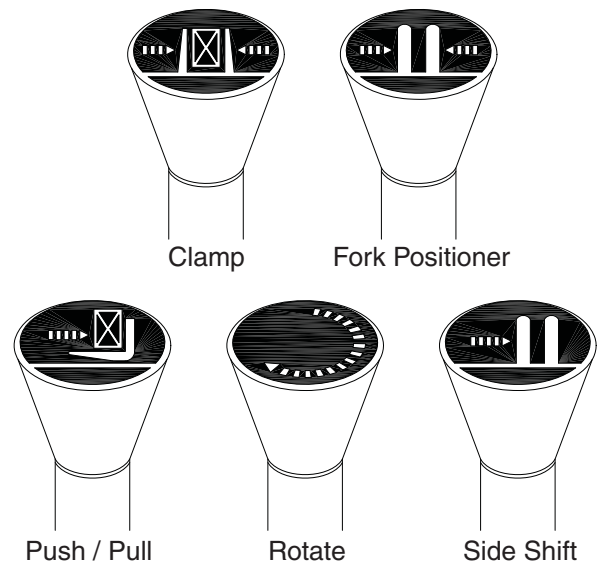

Figure 3-5
1. For clarity, the direction of arm movement is shown on the control handle. To move the arms in the direction shown, pull the handle towards the operator. To move the arms in the opposite direction, push the handle away from the operator. (Figure 3-5)